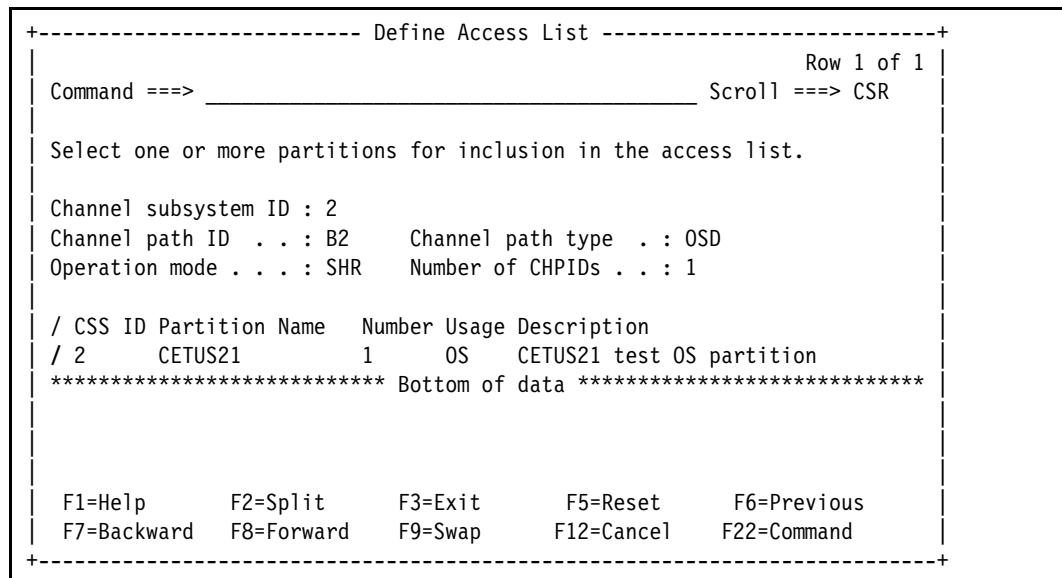

Figure 13-21 Processors: Define Access List, OSD
10. HCD will now prompt you to select which partition the CHPID should have Access to. Enter forward slash '/' next to the partition that you want (Figure 13-21), and press **Enter**.